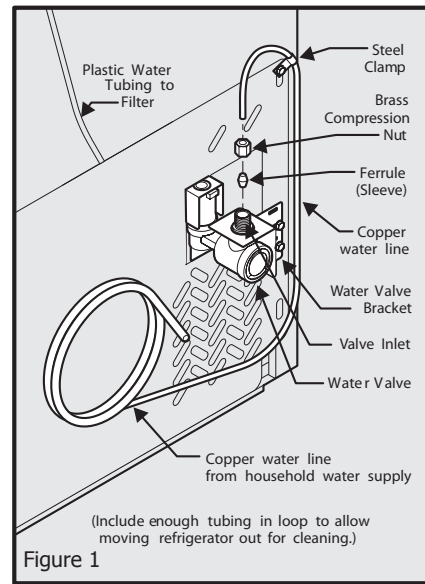
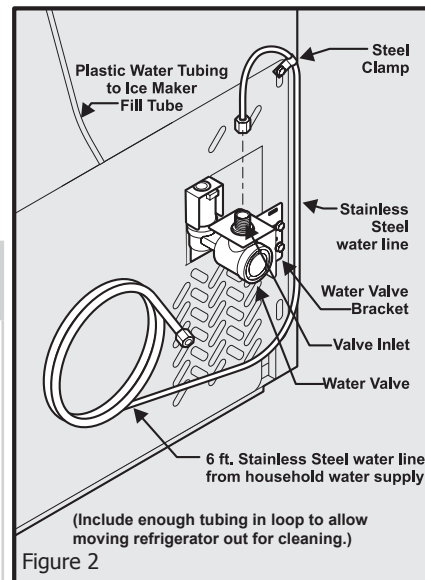

Figure 1
Figure 2
- If you use copper tubing - Slide brass nut, then ferrule (sleeve) onto water supply line. Push water supply line into water valve inlet as far as it will go (1/4 inch). Slide ferrule (sleeve) into valve inlet and finger tighten nut onto valve. Tighten another half turn with a wrench; DO NOT overtighten. See Figure 1. If you use braided, flexible stainless steel tubing - The nut is already assembled on the tubing. Slide nut onto valve inlet and finger tighten nut onto valve. Tighten another half turn with a wrench; DO NOT overtighten. See Figure 2.